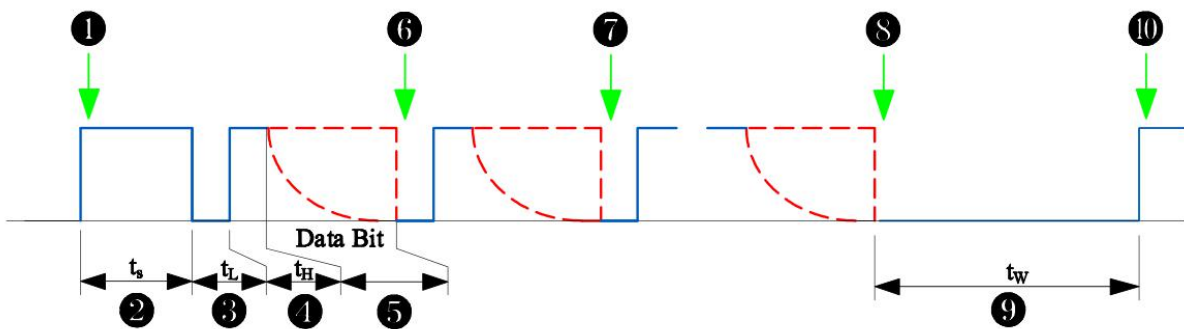

Figure 2
In this readout mode, as shown in Figure 2, the microcontroller ignores the interrupt signal, forces the DOCI line high for at least two system clock cycles, and then begins to read out the data as if it were readout in the interrupt mode. To ensure that the output data latch is updated, the microcontroller must release the DOCI line (automatic data update, same as interrupt cycle) or force the DOCI line low for at least 64 system clock cycles (force data update).
① The micro-controller ignores the YM312 interrupt valid signal and directly pulls up DOCI.
② The micro-controller pulls the DOCI line high for at least two system clock cycles (about 0.0625ms).
③ The micro-controller pulls the DOCI line low for at least 200ns.
④ The micro-controller generates a rising edge on the DOCI line, and the DOCI line remains high for at least 200ns.
⑤ The DOCI line toggles and outputs the MSB of the most significant bit of the data.
⑥ Micro-controller samples data MSB.
⑦ Repeat ③④⑤⑥, the micro-controller samples the next highest bit of data.
⑧ Repeat ③④⑤⑥, the micro-controller samples the least significant LSB of the data.
⑨ After reading the data, the micro-controller forces DOCI low and maintains at least 64 system clock cycles to complete the serial data update. Or as shown in Figure 2, the micro-controller forces DOCI low and immediately releases the DOCI line, completing the automatic data update in interrupt mode.
⑩ Repeat ① to start a new read cycle.